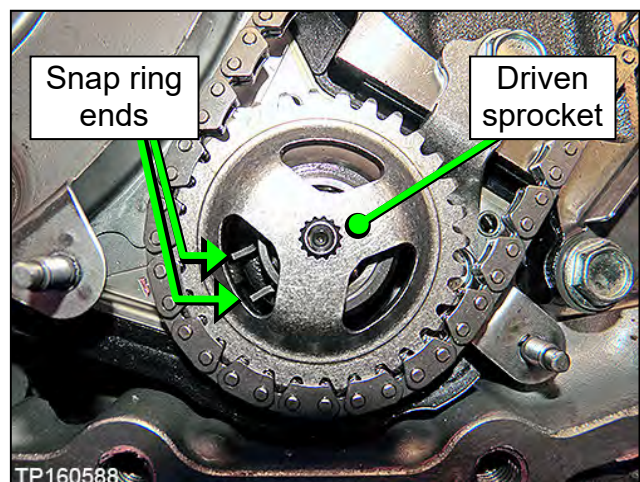

Figure 166
- Expand the snap ring with a suitable tool, and then push down on the driven sprocket until it bottoms out (Figure 166).